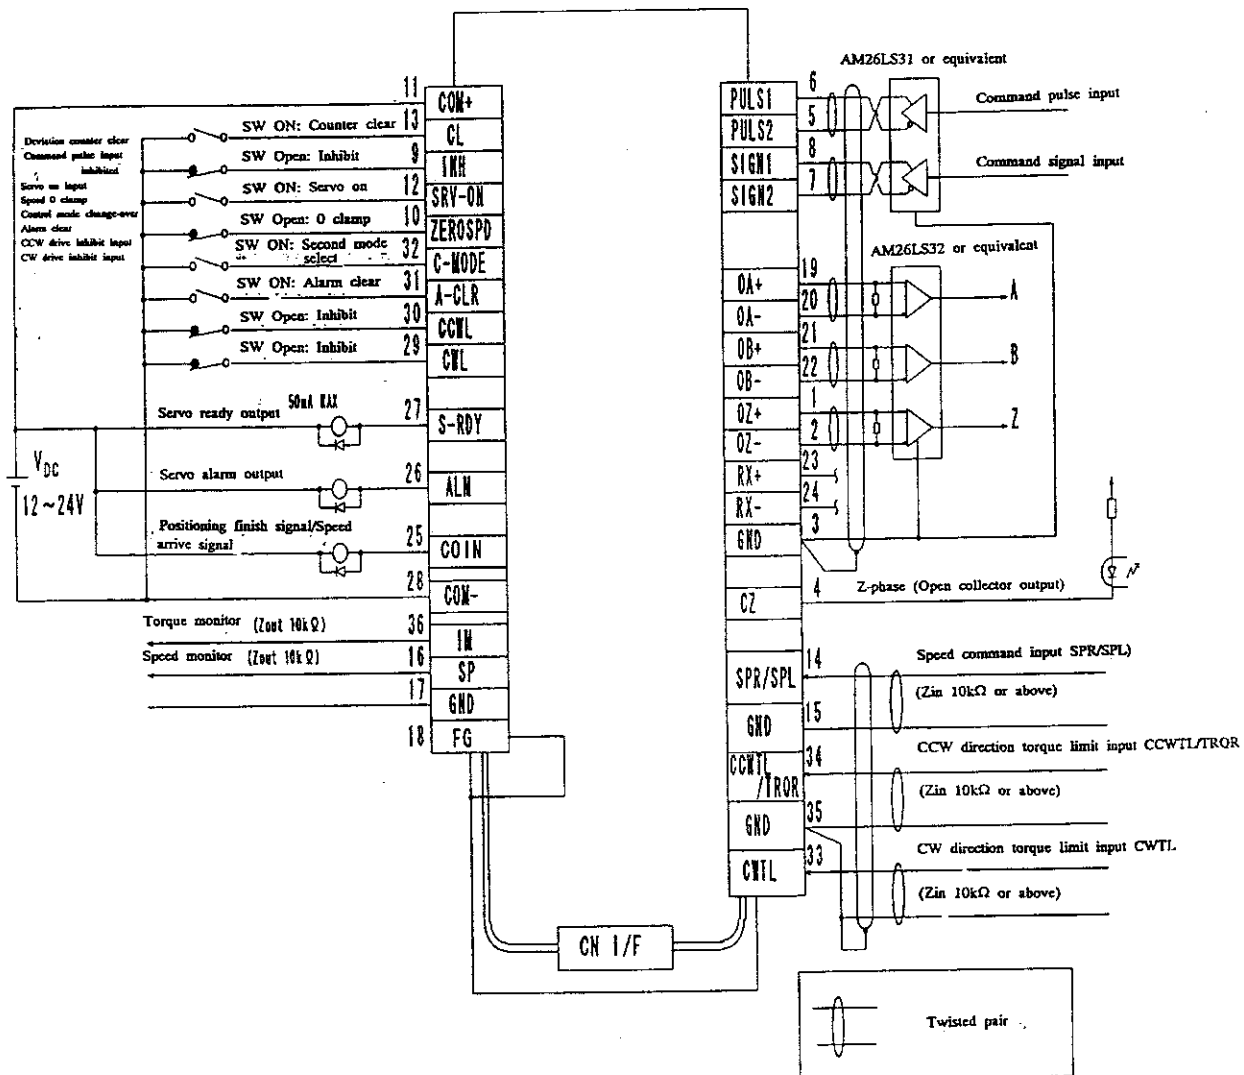

Fig. 5-2 Example of wiring to connector CN I/F
- (1) Please make wiring per Fig. 5-2, "Wiring example to connector, CN I/F". As for the pin arrangement of CN I/F, refer to 13-1 [Connector kit for connecting external equipment] (Page 61).
- (2) Please prepare a power supply for a control signal with DC12-24V, used for external control connected between COM + and COM -.
- (3) Please shorten the wiring of the driver and other equipment as much as possible (3 m or shorter).
- (4) Please separate this wiring from the power lines (R, S, T, U, V, W, $\oplus$), as much as possible (30 cm or more). Please avoid passing both wires into the same duct or binding them together. It may cause malfunction.
- (5) Please do not apply more than DC 24V or 50mA, to each terminal of the control output (S-RD₁, ALM, COIN), or avoid applying reverse polarity. This may cause damage to the driver.
- (6) If you directly drive a relay with the control output terminals, please install a diode in parallel with the relay as Fig. 5-2 shows. If you do not install a diode, or install it in reverse direction, this may cause damage to the driver.
- (7) As per Fig. 5-2, please use shielded, twisted pair wires for a signal line of CN I/F (analog command input, command pulse input, feed-back pulse output of the encoder etc.). Please ground the shield to the signal ground (GND) of the driver. (Though the shield of other equipment normally open, in case affected by extreme noise, connect shield of both driver and other equipment to frame ground.)
- (8) Frame ground terminal (FG) is connected with the earth terminal ($\oplus$) in the driver.